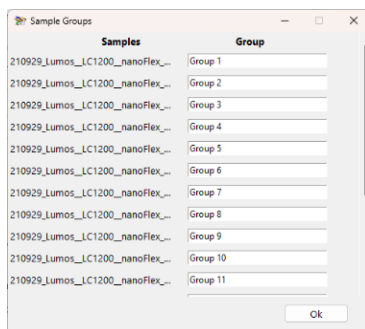

Fig. 12: *Sample Groups window*
- a. *MetaboAnalyst file* option allows GlycoGenius to output a .csv file that puts the samples in columns and glycans in rows, with abundance information of every glycan for each sample. *Please note that the analyzed samples should be bundled into groups of at least 3 samples to be properly analyzed by MetaboAnalyst.* These groups can be set on the “Set Groups” button (**Fig. 12**). If you output this file, it can be used on MetaboAnalyst website to automatically provide many different statistical analyses of your dataset.